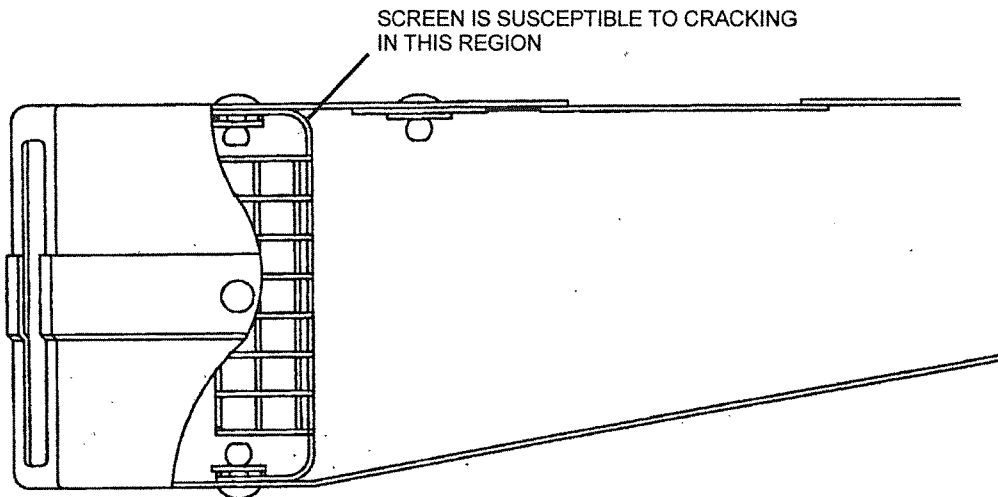

FIG. 1 AIR INTAKE DUCT T67M-50-101
- ii) If intake duct assy is T67M-50-101 (Ref Figure 1) then it is necessary to repeat inspection stages 4, 5 and 6 detailed within this Service Bulletin SB169 every 50 hrs flying hours, until Mod M760B air intake repair is invoked. When Mod M760B is incorporated annotate logbook "Mod M760B incorporated".